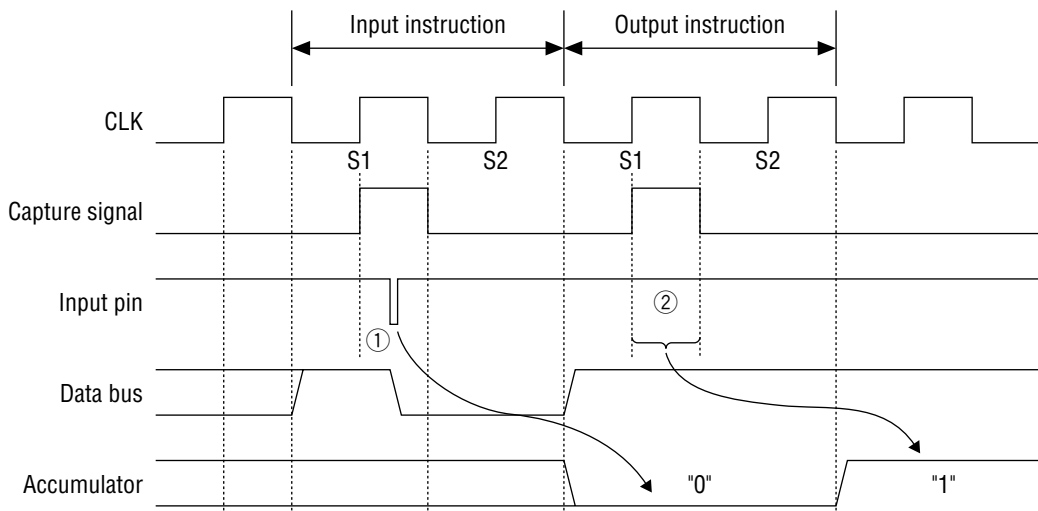

Figure 1-12 Input Data Example
"0" will be captured in the internal register if a "L" level is input to the input pin even once (① of Figure 1-12) during the data capture interval.
"1" will be captured in the internal register only if a "H" level is maintained (② of Figure 1-12) throughout the data capture interval.